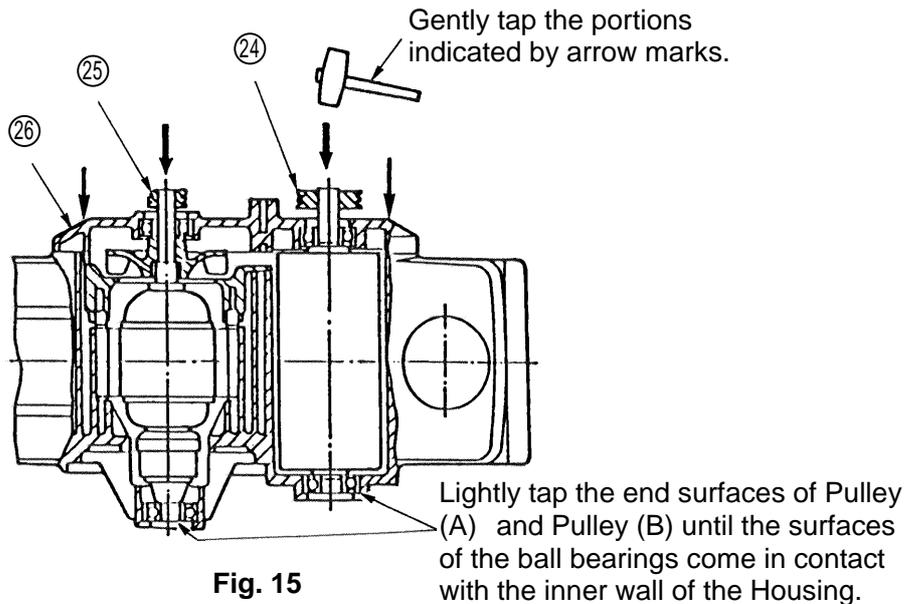

Fig. 15
- (4) Mounting the End Bracket: (Fig. 15)
The Armature (28) and Cutter Block (13) are first assembled onto the End Bracket (26), and then the assembled unit is installed in the Housing (9). As illustrated in Fig. 15, fit the 608VVC2 Ball Bearing (12) of the Armature (28) and Cutter Block (13) into the bearing chambers in the Housing (9), and lightly tap the end surfaces of Pulley (A) (25) and Pulley (B) (24), and the surface of the End Bracket (26) as indicated, alternately with a wooden hammer to drive the ball bearings into the bearing chambers slowly and evenly so that the fitting joint and protrusion of the End Bracket (26) are properly aligned with the matching joint and recessed portions of the Housing (9).